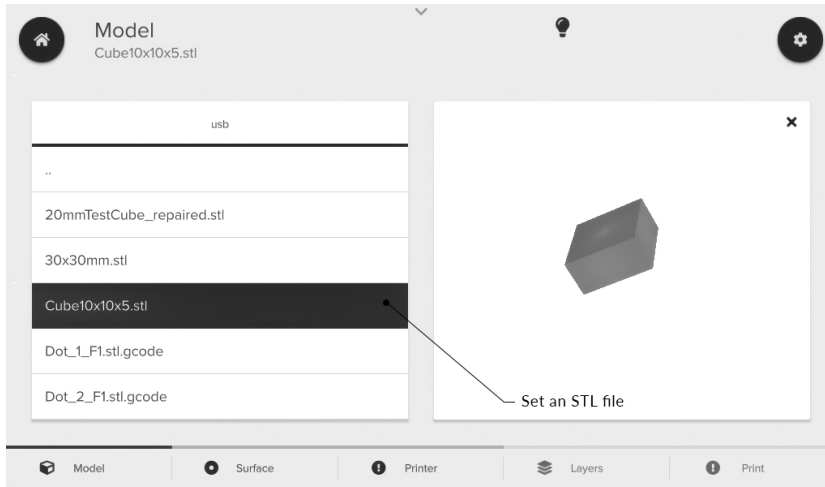

Figure 7: Selecting an STL file from the Model menu.
3. Select an STL file (filename.stl) or G-code file (filename.gcode) from the Model menu (Figure 7). Proceed to the next menu by selecting Surface along the bottom of the screen.